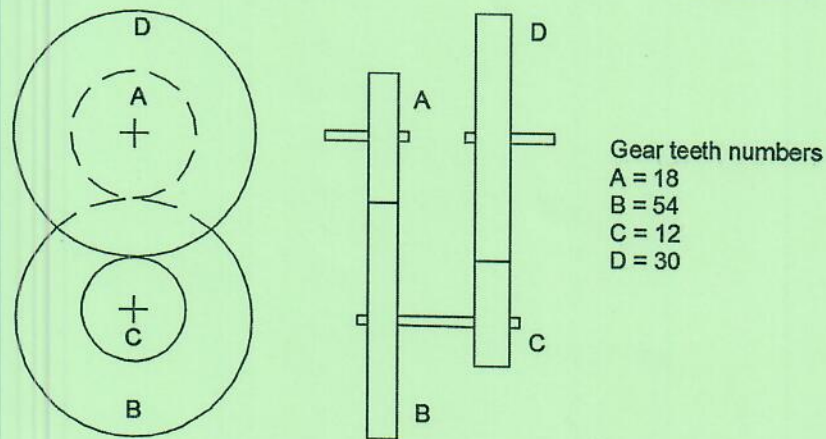

Figure 5 Gear train of a tractor gearbox
- c) Figure 5 shows a gear train in a gearbox of a forage harvester.